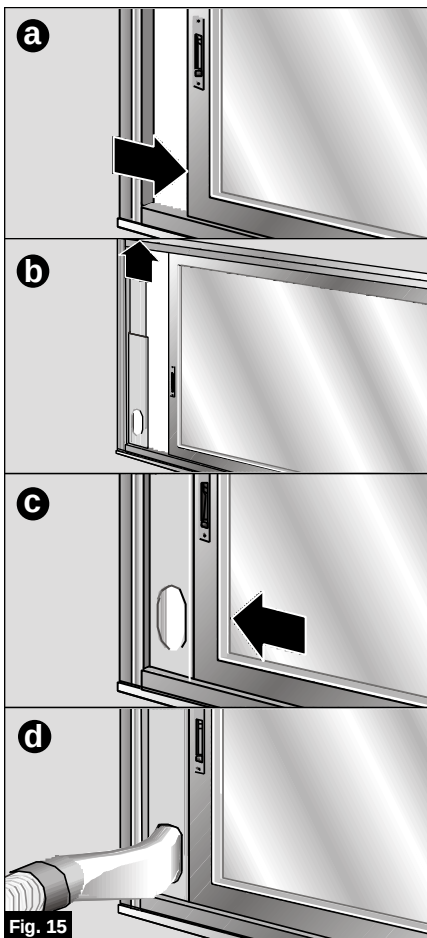

Fig. 15
- The sliding window/balcony installation accessory can also be used (See "Description of accessories"), **Fig. 15 : a, b, c, d**. This accessory can be used for both horizontal and vertical windows / balconies.